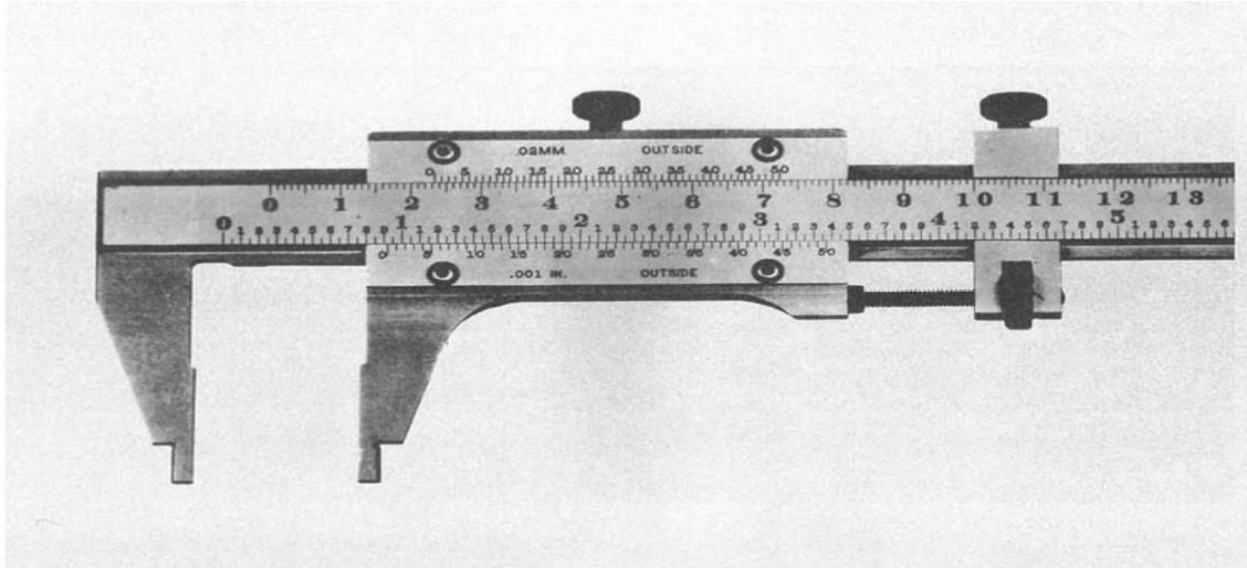

Figure 2.3: Vernier caliper.
b. Vernier caliper: A refinement of the slide caliper is the vernier caliper, shown in Figure 2.3. In this device, the movable jaw includes a vernier scale, named after P. Vernier (1580–1637), a French mathematician who invented it. The vernier provides graduations of 0.01 mm in the SI (and 0.001 inch in the U.S. customary scale), much more precise than the slide caliper.